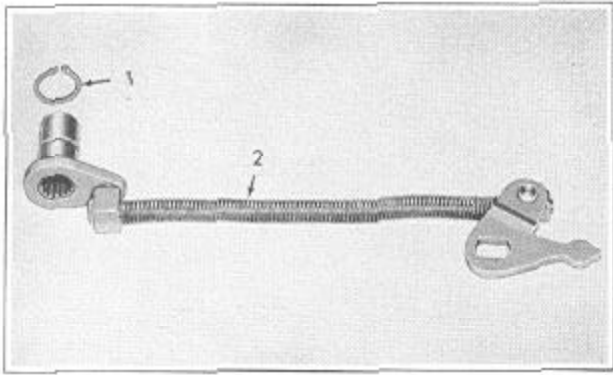

FIGURE 134
4. Remove the inner lever (4), Figure 51, from the selector control shaft (5) and slip the toggle shaft sleeve out of the case. The complete assembly as shown in Figure 134 can now be removed from the case.